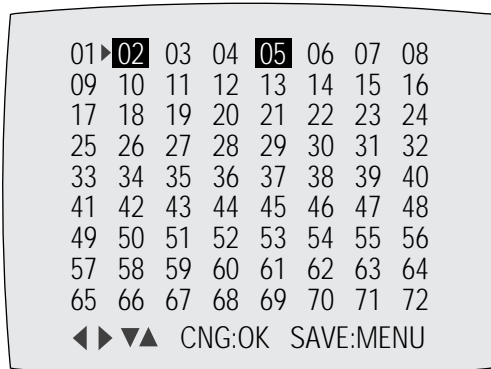

Fig. 5-5
- 2) Press the “MENU” button on the remote control about 5 seconds then option setting display is appeared. (See Fig. 5-5 and 5-6)
- 4) If selecting the option number is completed, press the “OK (PLAY)” button of remote control. (If “OK (PLAY)” button is pressed, the selected number is changes reversed color. ; See Fig. 5-5)